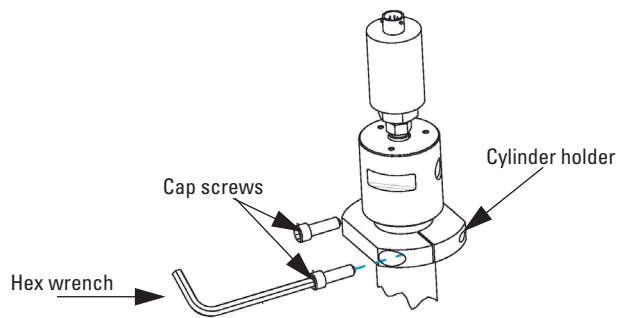

Figure 2-14 Secure screws with the 1/4" hex wrench
8. Place the two parts of the CYLINDER HOLDER (part of Wrench Kit 60-1249-132) onto the pump cylinder just below the threads for the cylinder cap (approximately 1/4" (6 mm) below the cylinder cap) (Figure 2-14).
9. Install the 5/16-18 X 1" Cap Screws (supplied with the Wrench Kit) to hold the two parts of the CYLINDER HOLDER in place (Figure 2-14).
10. Tighten the cap screws referred to in step 9 above with the 1/4" hex wrench (supplied with the Wrench Kit) as shown in Figure 2-14, securing the CYLINDER HOLDER to the pump cylinder.